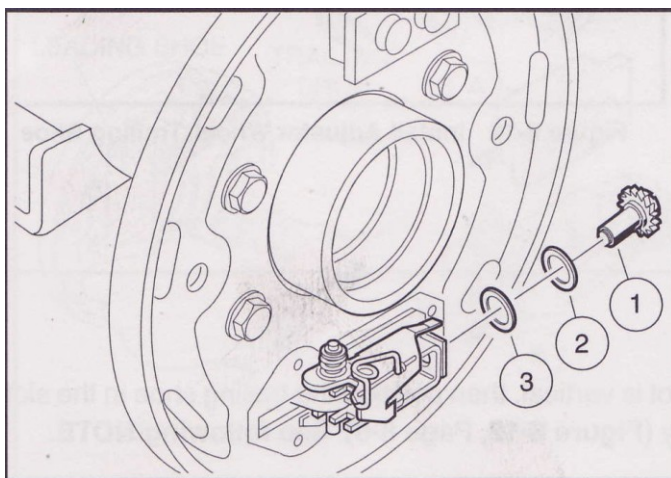

Figure 6-7
- Remove adjuster wheel (1) with two washers (2 and 3) from the backing plate (Figure 6-7).
7. Install the adjust wheel (1) and two washers (2 and 3) into the adjuster assembly (Figure 6-7).